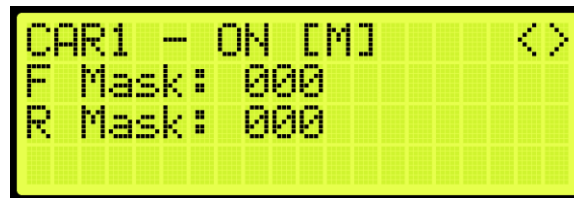

Figure 374: VIP Mask Status
14. View the VIP (Front and Rear) Mask Status (See Figure 374), press the right button.